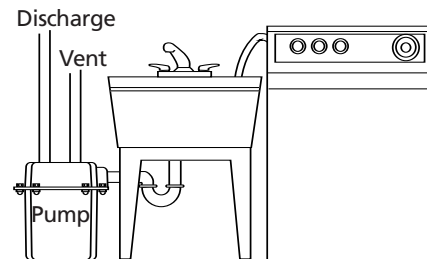

Figure 2 – Typical installation for laundry sinks and washing machines.
- H. Install the inlet pipe in the opening as shown. Use RTV sealant or Plasto-Joint Stik to seal threads. See Figures 2, 3 and 4 for typical installation arrangements.